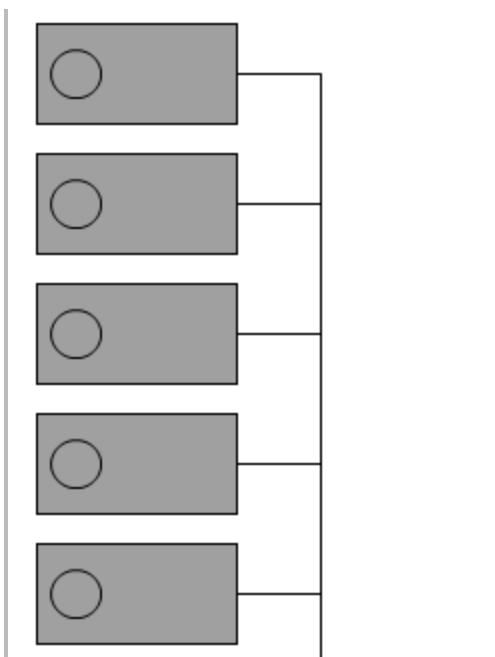

Figure 4-37 Aligned tabs with connecting wire
Your task is to build the screen as shown in following figure (Figure 4-37). The steps will provide guidance for using the various tools in the Display Manager.
8. Repeat to create a set of five identical, and aligned tabs. (Figure 4-37) Add a line to represent a connecting wire.